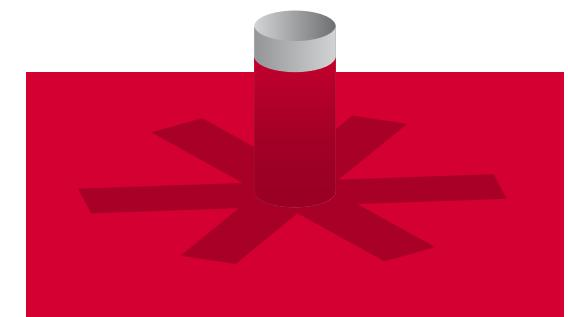

Figure 4: Wrap the slit cut piece around the pipe and 'fingers' on the VaporFlex®.
5. Wrap the VaporFlex® Standard around the pipe, taping the collar in place and securing the fingers to the bottom layer using the VaporFlex® Standard Tape. (Fig. 4 and 5)